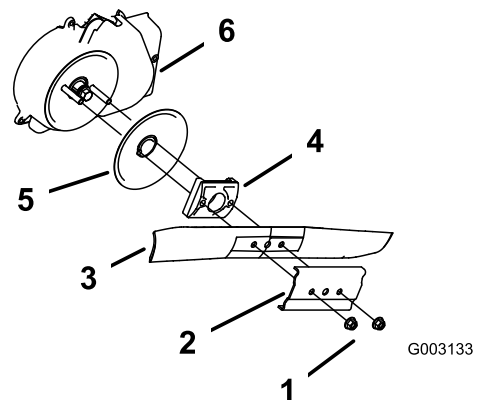

Figure 31
- 3. Remove the 2 blade nuts and the stiffener (Figure 31).
- 4. Remove the blade (Figure 31).
- 5. Remove the blade driver and disk (Figure 31).
6. Remove the blade brake clutch shield (Figure 31).
10. Install the blade and the stiffener that you previously removed (Figure 31).